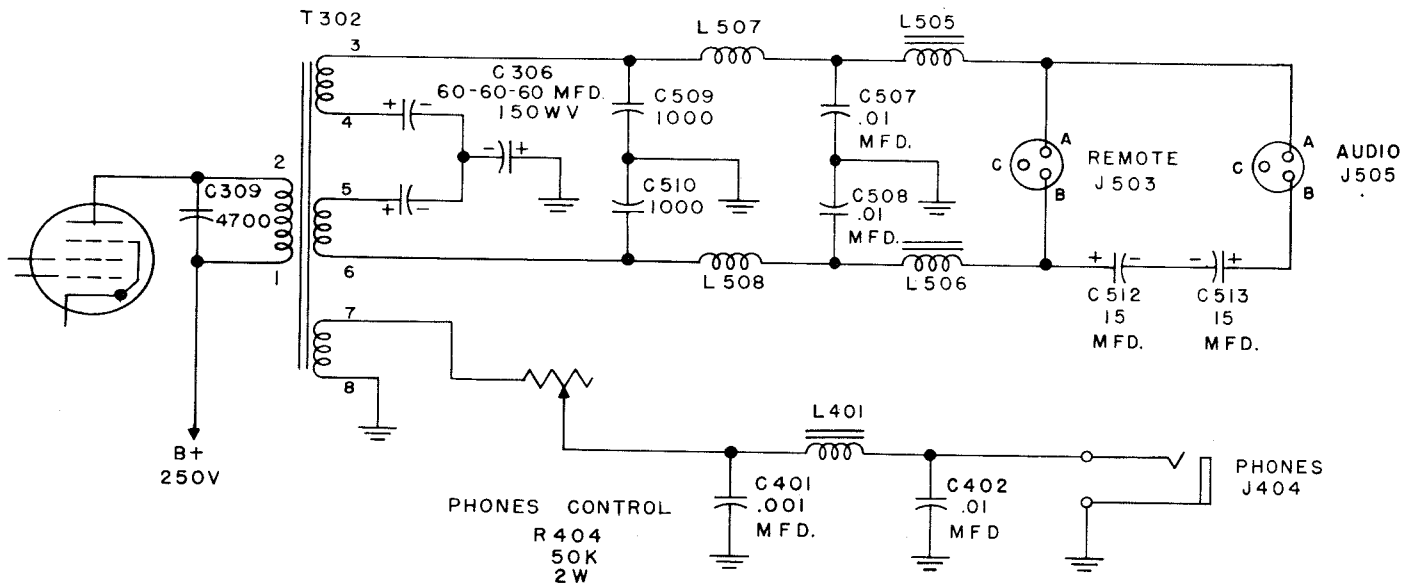

Figure 2-21. Simplified Schematic, Audio RF Filters
(e) AUDIO RF FILTERS.—The audio RF filters are shown in figure 2-21. The high level output winding of T302, is a split winding with a three section electrolytic capacitor C306 used for DC blocking at the electrical (AC) mid-point of the transformer winding so that remote control functions can be inserted by the two leads indicated. (See J503, Figure 2-21). The high level winding of T302 has an output impedance of approximately 300 to 400 ohms, which is center tapped through capacitor C306 to ground. This winding is electrostatically shielded and balanced making it well suited for connecting remote circuits. A two section filter is employed between this winding and the AUDIO receptacle (J505) and the REMOTE receptacle (J503),